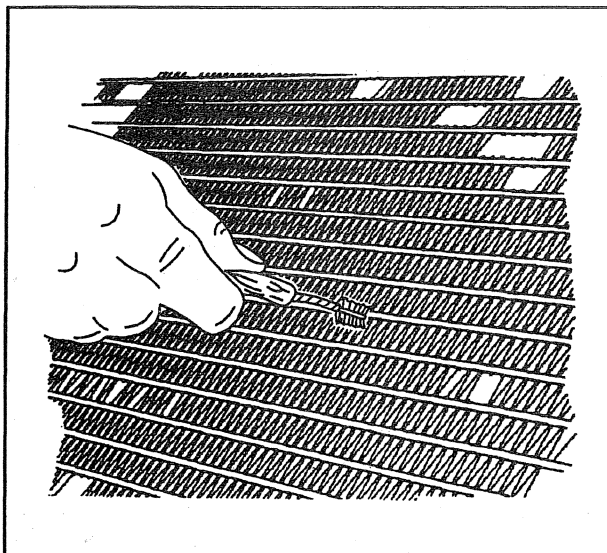

Figure 18—Cleaning the Area with a Steel Brush
4. Brush the area to be repaired with the small steel brush that is supplied in the kit and blow dust away from the repair area (figure 18).